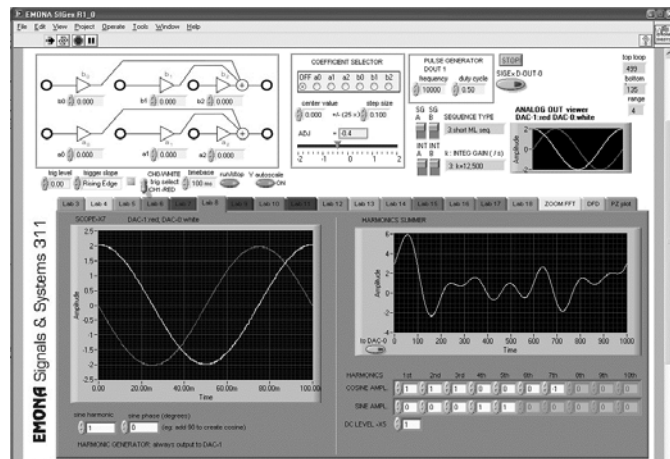

Figure 1-3 EMONA SIGEx Soft Front Panel.
When using NI ELVIS with the EMONA SIGEx board to conduct signals and systems experiments the students will run the SIGEx Main SFP VI shown in Figure 1-3 below. The SIGEx SFP serves both to control elements of the SIGEx hardware, as well as provide experiment specific measuring instrumentation. The layout is arranged so as to fit on screen easily with all parameters in view.
1. Please go over the star menu and run the “SIGEx Rx_x.exe” to open the EMONA SIGEx Main SFP VI, a window similar to Figure 1-3 should open.